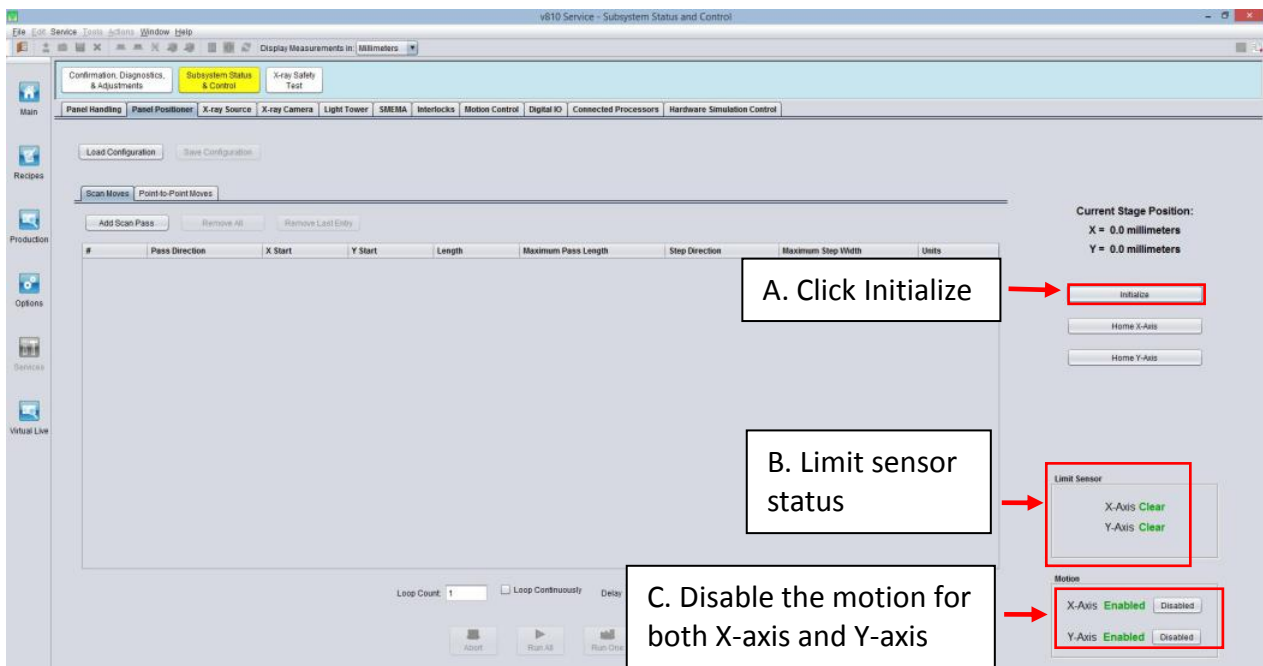

Figure 25 Panel Positioner
40. Go to the Panel Positioner tab and click Initialize. The limit sensor status for the X-axis should be clear. Disable the Motion for the X-axis and Y-axis as shown in Figure 25. Close the X-ray source and open the front door.